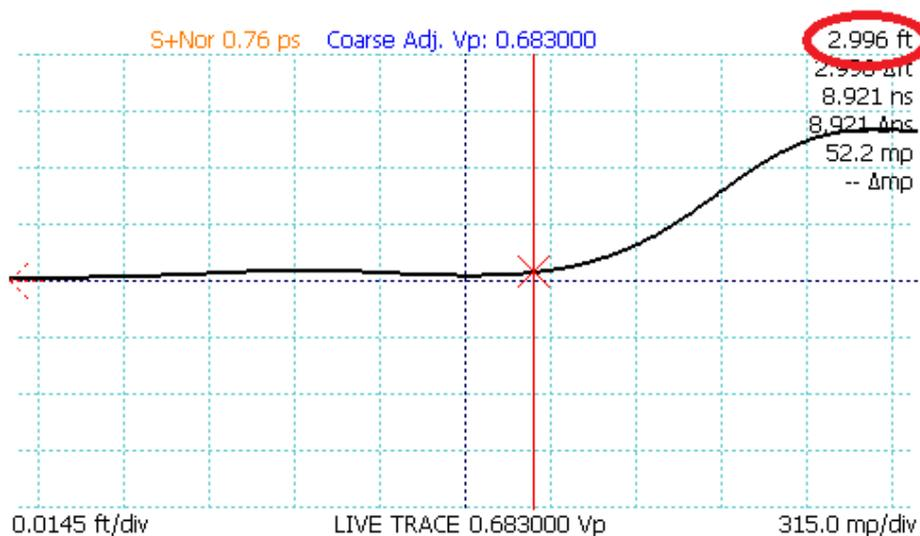

Figure 4.6. Use of the HORIZONTAL SCALE knob to improve V_p accuracy.
4. Accurately position the cursors to bracket the area of the trace associated with the test cable. Using the scale and position knobs, move the ending cursor so that it is just aligned with the “toe” of the open or shorted fault at the end of the cable (Figure 4.6). If an adapter is used, position the starting cursor at the end of the adapter. The accuracy of cursor placement affects the accuracy of the V_p measurement.